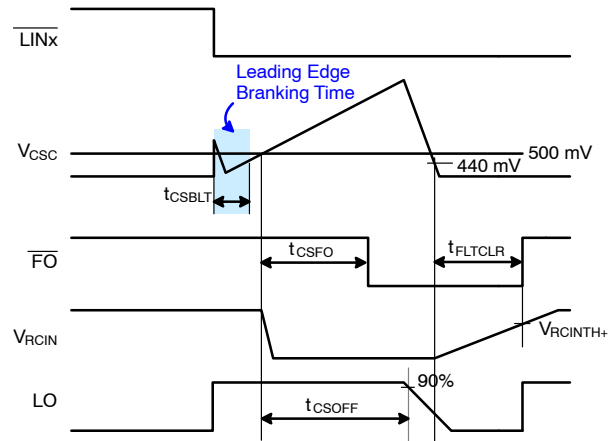

Figure 43. R_{CIN} and Fault-Clear Waveform Definition
Figure 43 shows the waveform definitions of RCIN, $\overline{FO}$, and the low-side driver; which uses a soft turn-off method when an under-voltage condition of the low-side gate driver supply voltage (V_{DD}) or the current-sense pin (CS) recognizes a fault. If a fault condition occurs, the $\overline{FO}$ Pin is internally pulled to COM and all outputs (HO1,2,3 and LO1,2,3) of the gate driver are turned off. Low-side outputs decline linearly by the internal sink current source ($I_{SOFT} = 40 \text{ mA}$) for soft turn-off, as shown in Figure 43.